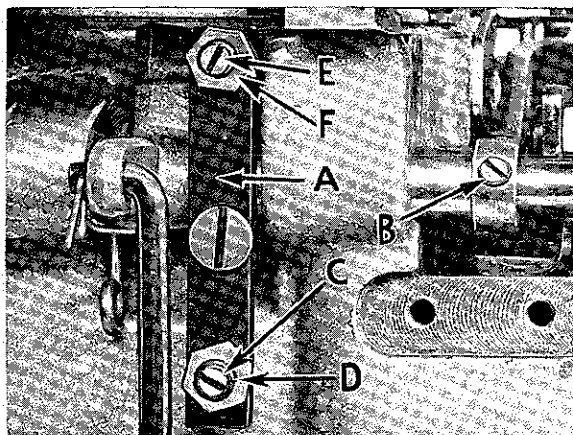

Fig. 15
Foot lifter lever arm (A, Fig. 15) and collar (B) secure the shaft. Be sure presser arm does not bind and rise when presser foot release bushing is unlocked. To center presser foot and stitch tongue with respect to throat plate needle hole, loosen presser foot hinge screw.